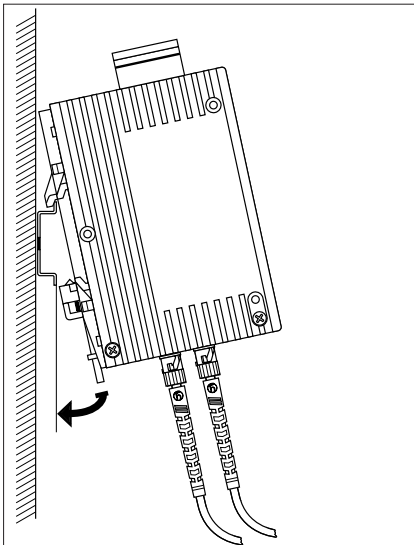
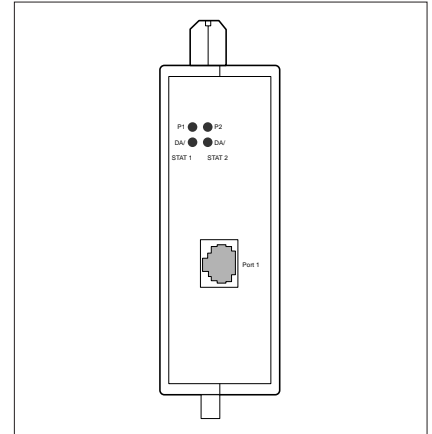

Fig. 5: Assembling Transceiver 10 Mbps TP/FL
Fig. 6: Dismantling
- Suspend the upper snap-in hook of the Transceiver 10 Mbps TP/FL on the ISO/DIN rail, insert a screwdriver horizontally under the housing into the locking slide, pull this downwards (see. Fig. 6, dismantling) and press the bottom of the module onto the ISO/ DIN rail until it locks in position (Fig. 5).
To take the Transceiver 10 Mbps TP/FL off the ISO/DIN rail, insert a screwdriver horizontally under the housing into the locking slide, pull it downwards and tilt the Transceiver 10 Mbps TP/FL upwards (Fig. 6).